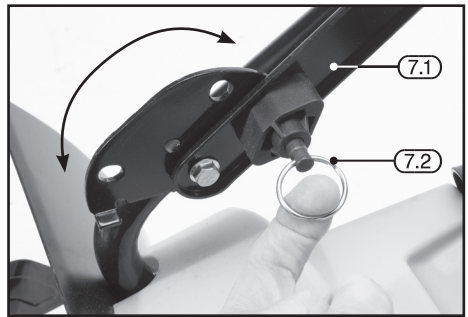
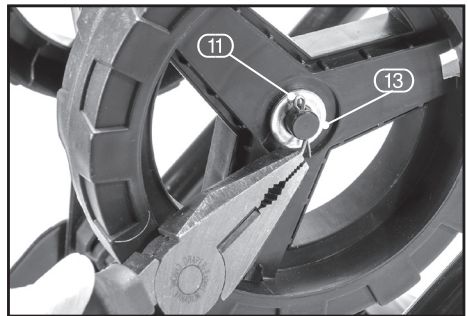
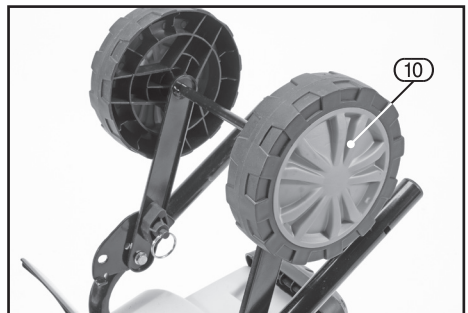

FIG.9
FIG.11
FIG.12
8.2 ASSEMBLING THE TRANSPORT WHEELS (97929) – FIGS.9 – 12
- Slide each wheel (7) onto each end of the axle.
- Thread a washer (11) in place over the end of the axle for each wheel (fig.11).
- Insert the 'R' type locking pins (13) through the holes on the end of each axle to secure the wheels in place.
- Press-fit each wheel cap (10) in place (fig.12).